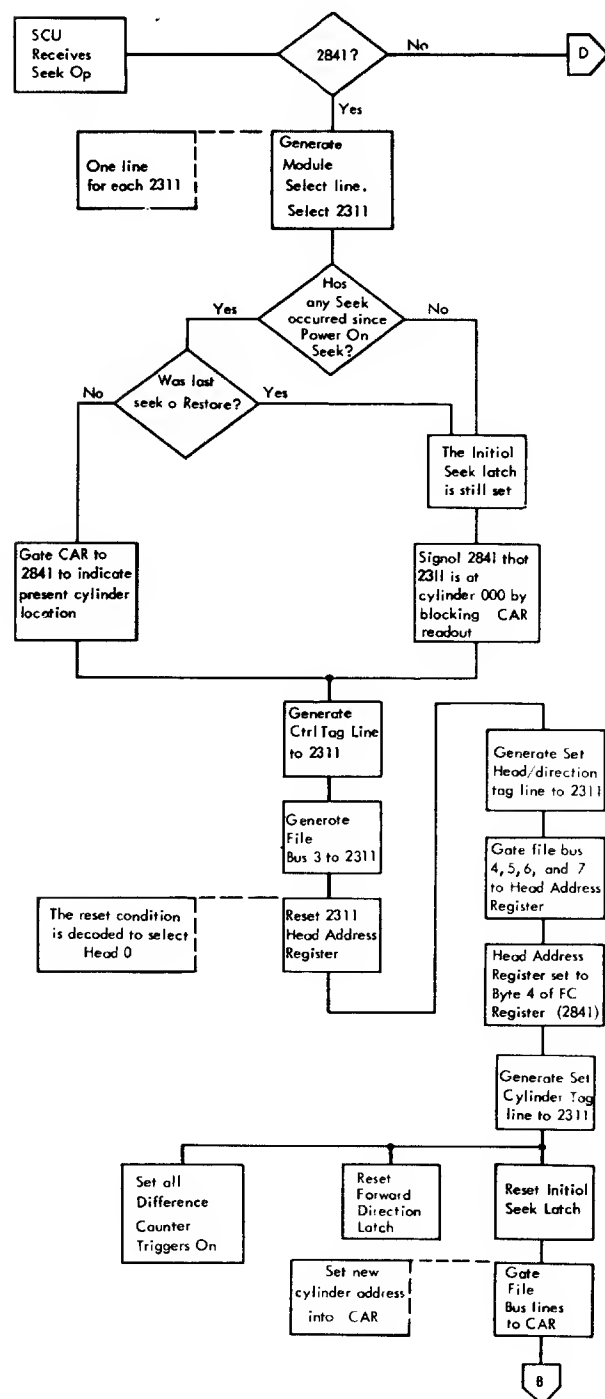

Figure 3-5a. Programmed Seek Flow Chart
- Select the 2311 (Figures 3-5a, 3-5b, 3-5c, 3-5d).
determine whether the access is at cylinder 000 or at some other location (Figure 3-5a). The access is at cylinder 000 if a power on seek has occurred or if a 'recalibrate' (restore) was signalled by the
A 'set head/direction' tag line (Figure 3-5a), together with the appropriate signals on the file bus, sets the head address register to cause a head to be addressed.